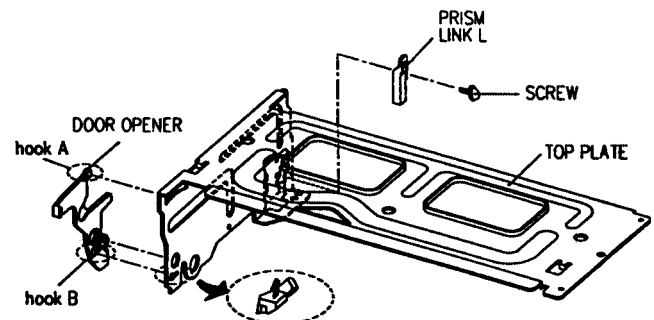

Fig. 15- Top Plate Disassembly
5. Remove one (1) screw holding the prism link L (Fig. 15).
6. Release hook B by pushing it in the direction of the arrow and remove the door opener (Fig. 15).